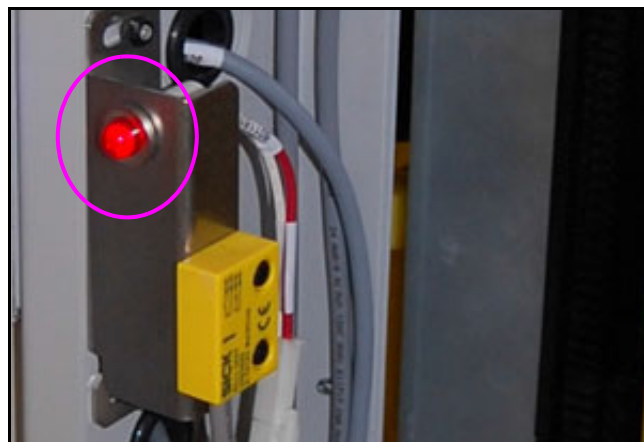

Figure 2-22: Interlock LED
- a. The interlock LED is on to indicate interlock is open (see Figure 2-22).